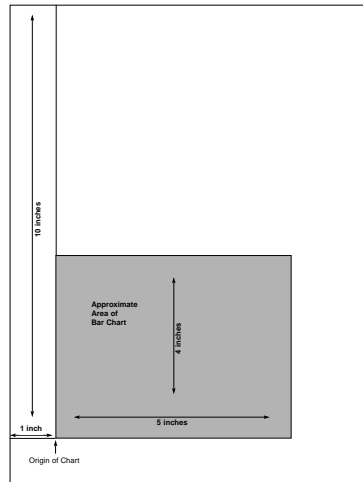

Figure 11
- Determine where the chart should be placed (always in relation to the top left hand corner of the printable area). In the example, the bar chart is on the bottom half of a letter size page. The origin of the chart is one inch away from the left margin and 10 inches away from the top margin (Figure 11).